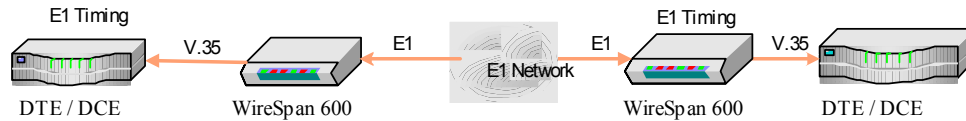

Figure 1-6 E1 timing mode
- **E1 timing mode:** With E1 timing, the WireSpan 600 / 610 link transmit signal is locked to the recovered E1 receive clock. This is usually the timing mode selected for network operation, as shown in *Figure 1-6*. In the application illustrated in *Figure 1-6*, the master clock of the network determines the timing of the two WireSpan 600 / 610 units. In case the E1 receive signal is lost, WireSpan 600 / 610 automatically switches to the internal oscillator.